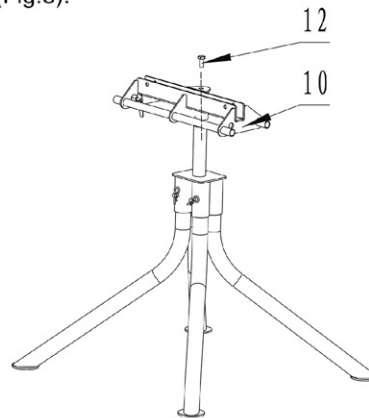

Fig.8
Locate the tilt/swivel unit (10) onto the stand connector and fit the bolt (12) to hand tight only.(Fig.8).